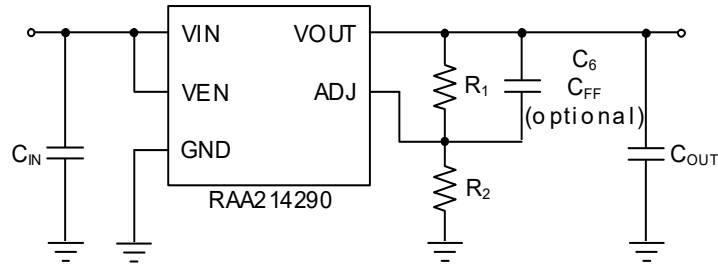
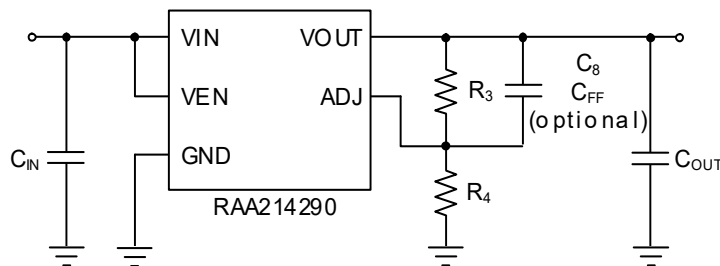

Figure 3. RAA214290 SOIC Simplified Application Schematic
Figure 4. RAA214290 DFN Simplified Application Schematic
The RAA214290 output voltage ( $V_{OUT}$ ) can be programmed down to 1.224V and up to 18V using the feedback (FB) resistors,  $R_1$  and  $R_2$  for the SOIC package (Figure 3) or  $R_3$  and  $R_4$  for the DFN package (Figure 4).